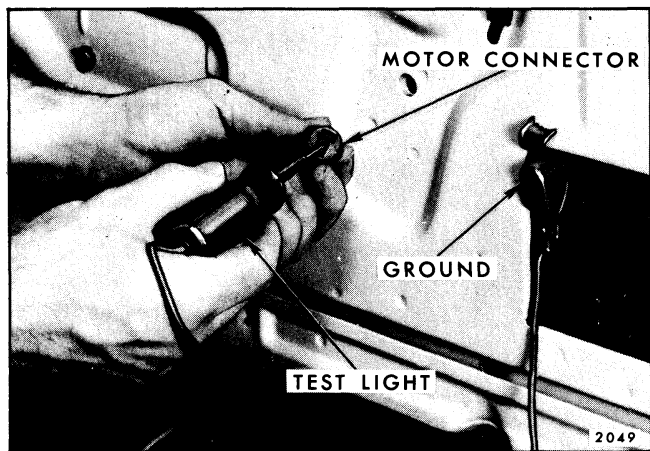

Fig. 10-9-Checking Circuit Between Switch and Motor
3. With test light, check for current at motor harness connector terminal being tested. If tester does not light, there is an open or short circuit in the harness between the control switch and motor connector (Fig. 10-9).
2. With a test light, check for current at the corresponding terminal at the motor harness connector. If tester does not light, there is an open or short circuit between control switch and motor connector (Fig. 10-9).